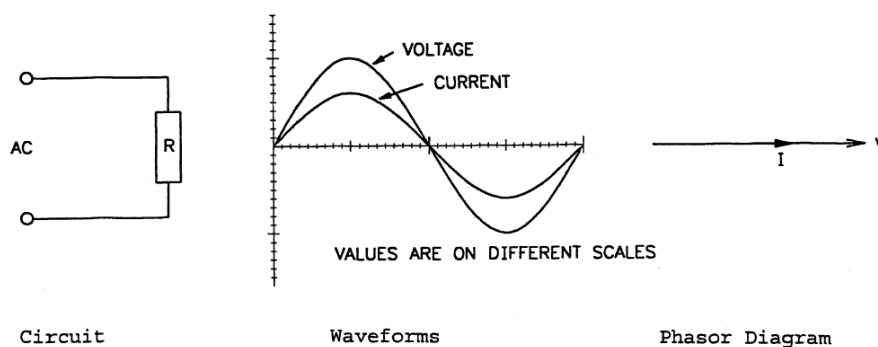

Figure 1 - Voltage and current relationships in a resistor
2. In purely resistive circuits, changes in the applied voltage cause corresponding changes in the current, with the result that current and voltage are in phase, as shown in Figure 1.